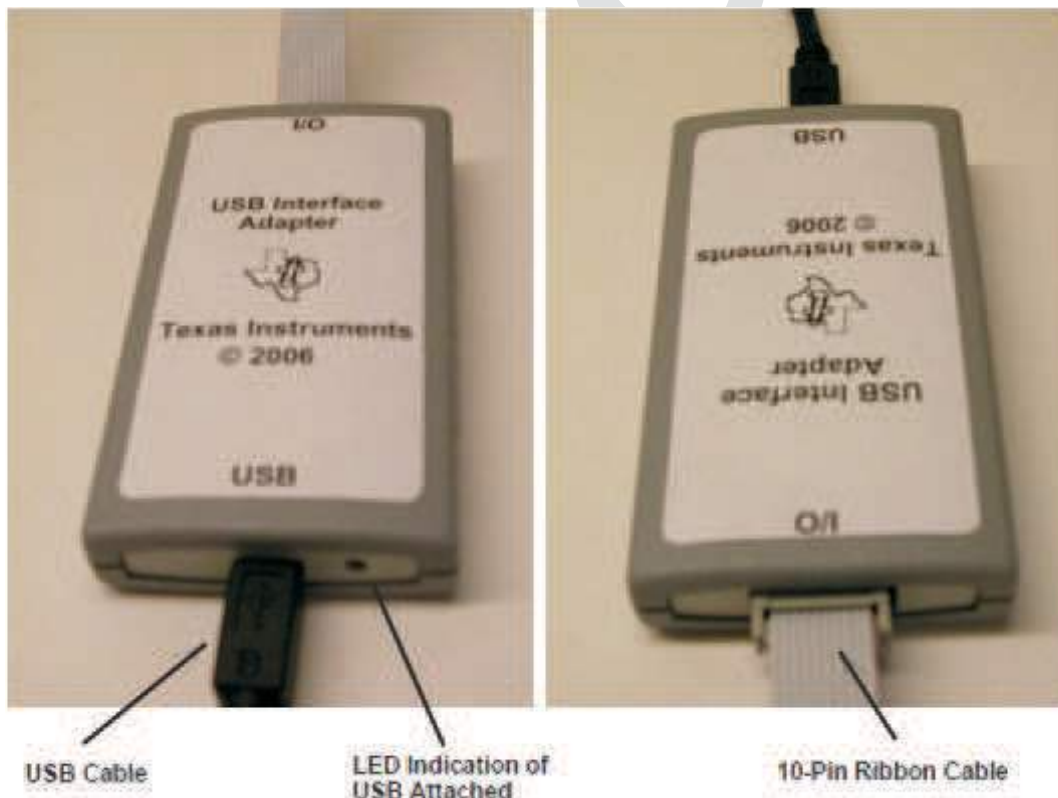

Figure 3. USB-to-GPIO Adapter
- **Host (PC):** a Windows™ personal computer (PC) – used to configure and monitor the DRV201EVM. The GUI operates on the host. For the GUI to execute properly, the host needs to have the correct LabView™ RunTime version. If the host doesn't have the correct RunTime version it will be prompted during GUI installation. More information in GUI installation section.
- **USB-to-I²C adapter:** DRV201EVM uses the I²C interface for communication with the host. The TI-supplied USB-to-I²C adapter shown in Figure 3. USB-to-GPIO adapter does the appropriate conversion so the host can use the USB interface for communication. USB-to-I²C adapter has a 3.3-V supply rail which is used to supply the EVM so no external power supply is needed.